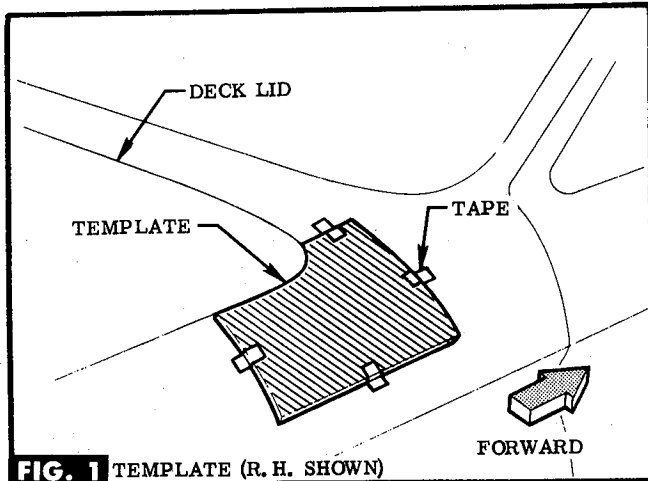

FIG. 1 TEMPLATE (R. H. SHOWN)
STEP 1 TAPE TEMPLATE TO REAR QUARTER PANEL AS SHOWN. CENTERPUNCH, DRILL HOLE & FILE NOTCH PER INSTRUCTIONS ON TEMPLATE. SEE FIG. 1.